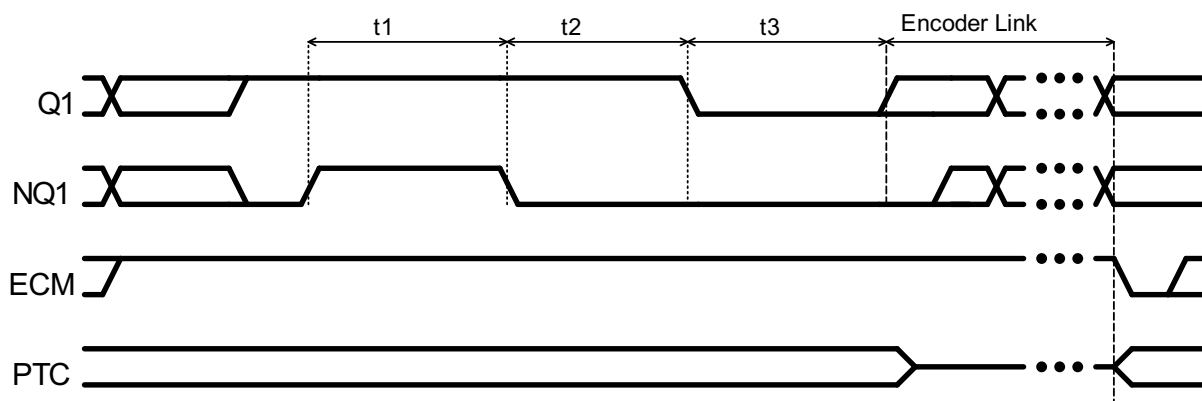

Figure 22: Time diagram of the *Encoder Link Sequence*
An example of this sequence is presented in Figure 22. The sequence is divided into three time intervals or steps: *t1*, *t2* and *t3*:
- In the second step, both pins Q1/NQ1 must be released. They will go back to complementary state (in *BiSS bus loopback mode* Q1 must be pulled hi and NQ1 lo externally). In the example of Figure 22, input X1 is high and therefore Q1 goes high and NQ1 low when released. Q1/NQ1 must be kept in complementary state during an amount of time as close as possible to *t1*. The maximum allowed time tolerance is specified by parameter Δts , (cf. *Electrical Characteristics no. 804*).